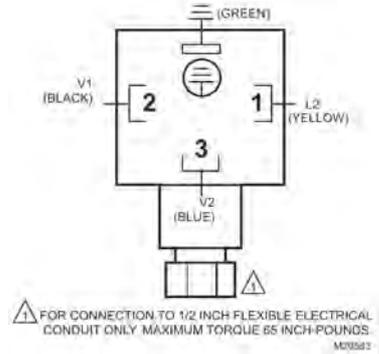

Fig. 16: Four-pin electrical plug connector
2. Follow the instructions below for wiring the gas valve. See Fig. 16 and 17 for reference.